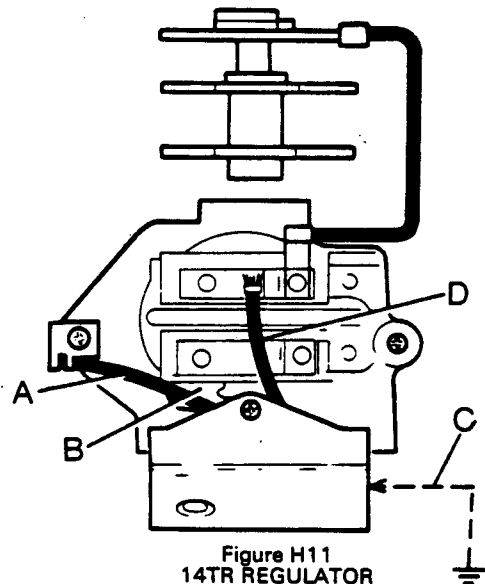

Figure H11
7. On Lucas alternators with the 14TR regulator, connect a jumper wire between the case and ground as shown in Figure H11.